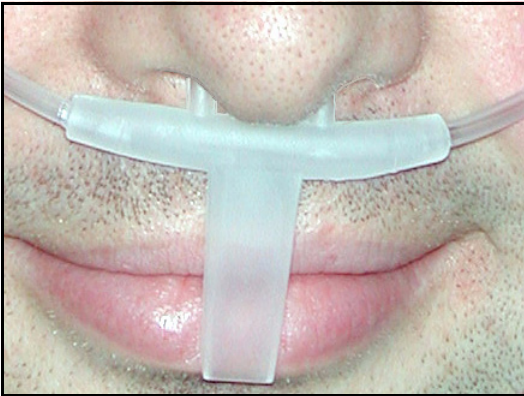

Figure 8 Positioning the Cannula
1. Position the Ultima Pressure Sensor Cannula on the patient and place the cannula sensor tips into the nose and in front of the mouth as illustrated in Figure 8.